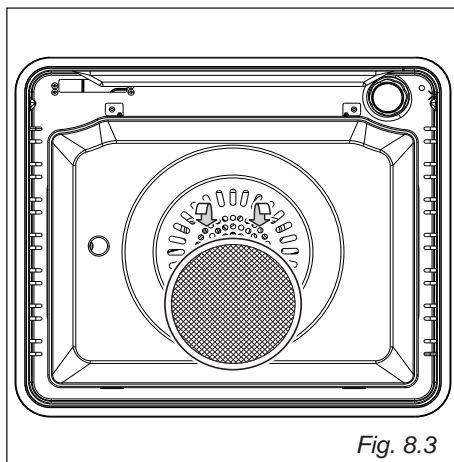

Fig. 8.3
- A special screen is provided at the back of the oven to catch grease particles, mainly when meat is being roasted. Slide in the grease filters on the back of the oven as in fig. 8.3.